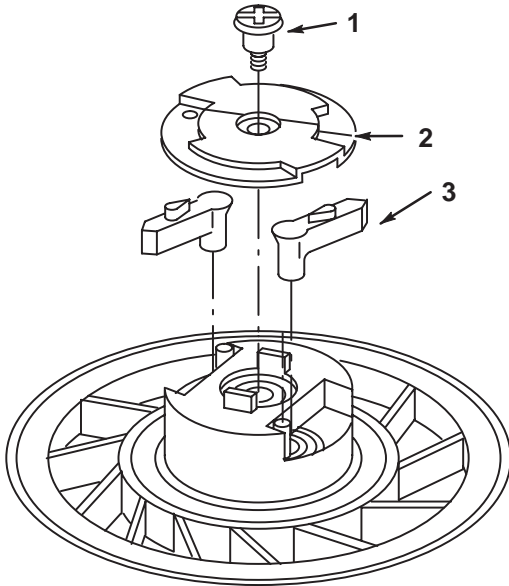

Fig. 72 – Removing Retainer
1. Remove shoulder screw and retainer, Fig. 72.